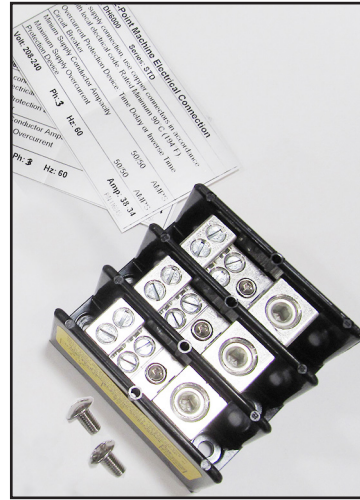

Fig. 1
1. Check the contents of the kit, (Fig. 1). The new data plates must be included. Contact Champion National Service in USA @ 1-(800) 858-4477 or in Canada @ 1-(800) 263-5798